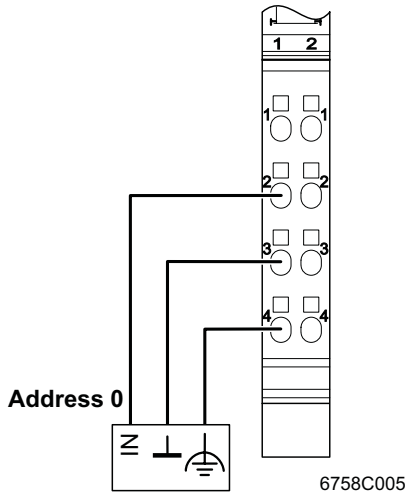
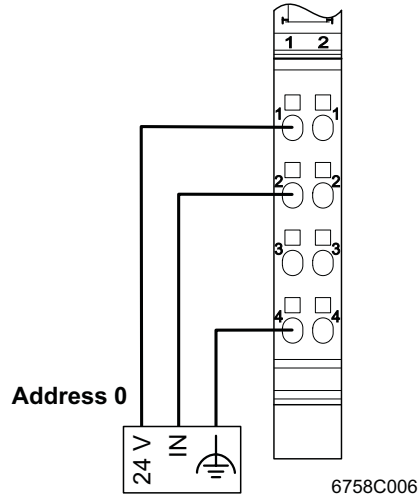

Figure 5 Connection of active sensors (slaves) in 2-wire technology with shield connection
Figure 6 Connection of passive sensors (slaves) in 2-wire technology with shield connection (Loop power)
- Use a connector with shield connection when installing the sensors. Figure 5 and Figure 6 show the connection schematically (without a shield connection).